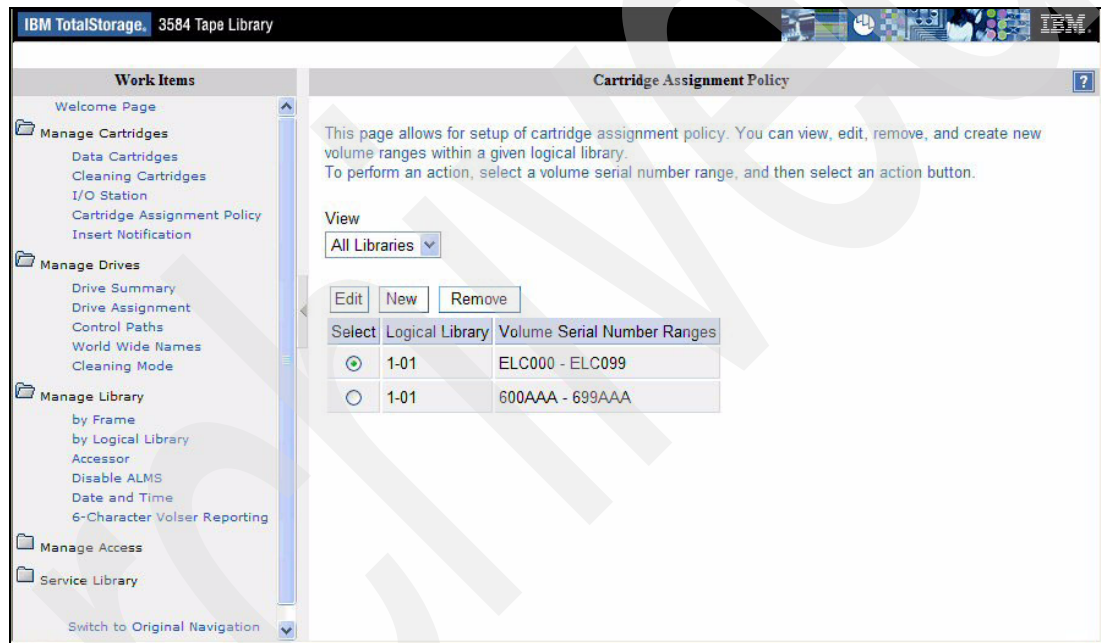

Figure 4-19 3584 Cartridge Assignment Policy
- The 3584 Cartridge Assignment Policy defines which volumes are assigned to which logical library. See Figure 4-19.
Figure 4-19 shows the *Cartridge Assignment Policy* screen of the 3584 Tape Library Specialist that allows you to define the CAPs.